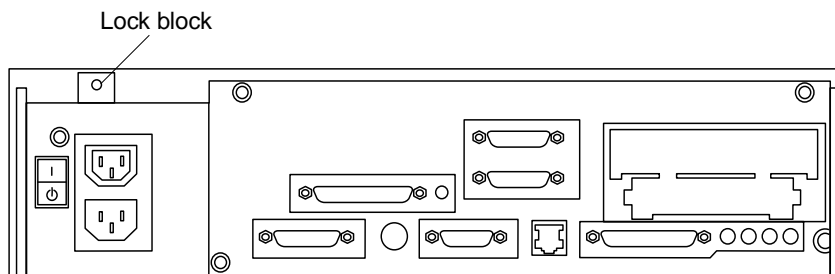

FIGURE 7-1 Location of Lock Block
2. Use a No. 1 Phillips screwdriver to remove the lock block (FIGURE 7-1).
4. Use a No. 1 Phillips screwdriver to replace the lock block (FIGURE 7-1).